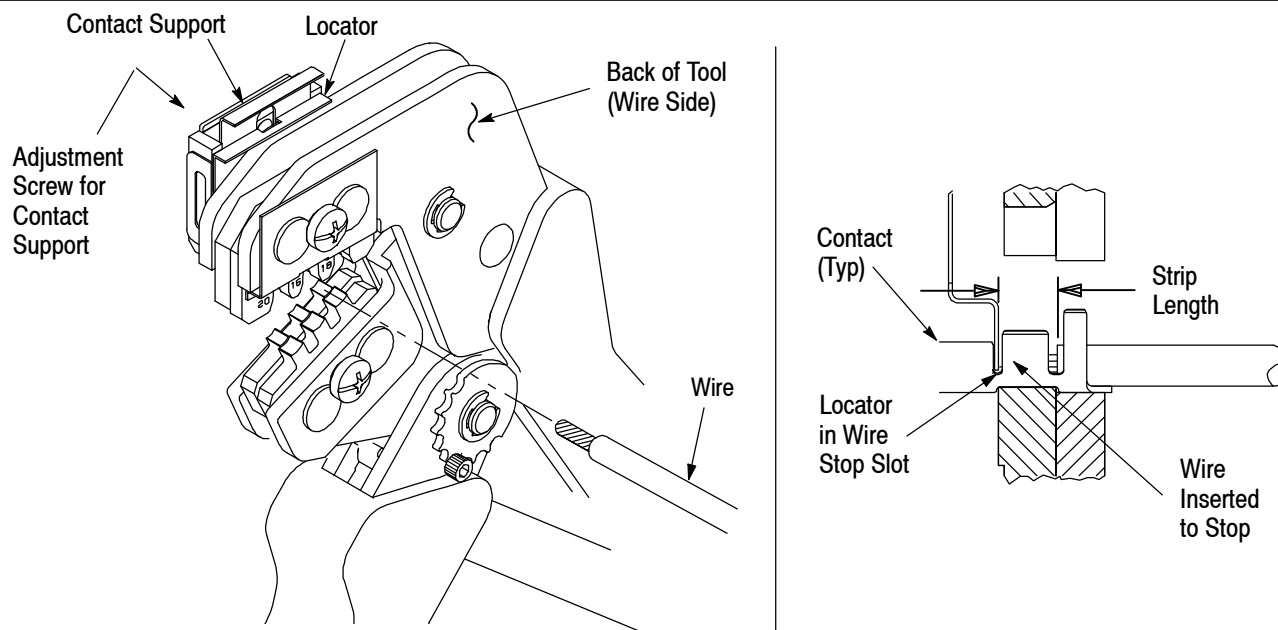

Figure 3
4. CONTACT SUPPORT ADJUSTMENT (Figure 3)
Refer to the table in Figure 1 and select wire of the specified size and insulation diameter. Strip the wire to the length indicated in Figure 1, taking care not to nick or cut wire strands. Select an applicable contact and identify the appropriate crimp section according to the wire size markings on the tool. Refer to Figure 3 and proceed as follows:
3. Position the contact so that the mating end of the contact is on the locator side of the tool, and so that the open “U” of the wire and insulation barrels face the top of the tool. Place the contact up into the nest so that the movable locator drops into the slot in the contact. Refer to Figure 3. Butt the front end of the wire barrel against the movable locator.
5. Insert stripped wire into contact insulation and wire barrels until it is butted against the wire stop, as shown in Figure 3.
NOTE The crimped contact may stick in the crimping area, but the contact can be easily removed by pushing downward on the top of the locator (see Figure 3).